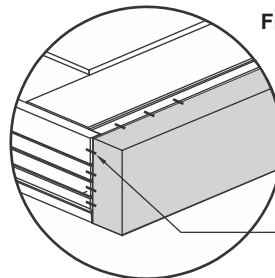

Fig. 9
8. For windows, use 4 staples at the sill and head (Figure 9). For patio doors, use 4 staples at the head and 3 staples at the sill (Figures 9 & 10).